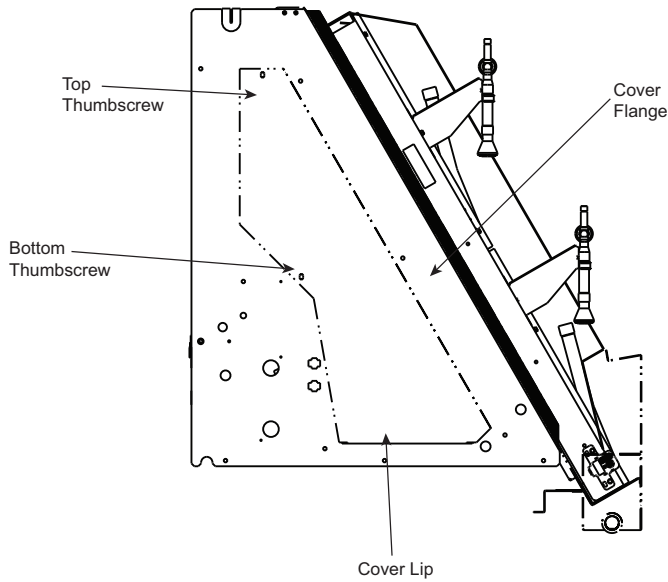

Fig. 8 – Filter Access Cover
2. Remove the bottom thumbscrew from the filter access cover. Save screw. Refer to Fig. 3 for filter access cover location and Fig. 8 thumbscrew locations.
5. To reinstall the filter access cover, start by inserting the filter access cover lip behind the side panel rail. See Fig. 8 for cover lip location.